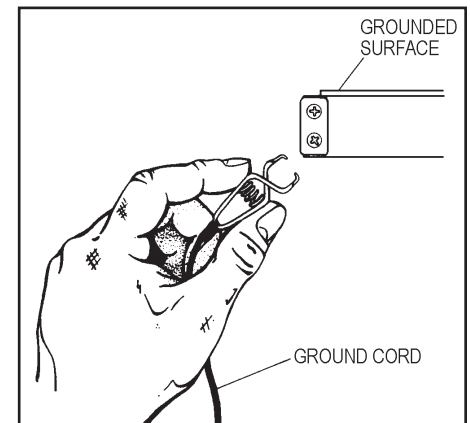

Figure 3. Connecting ground point
5. Attach the grounding clip to a reliable ground point. See Figure 3.